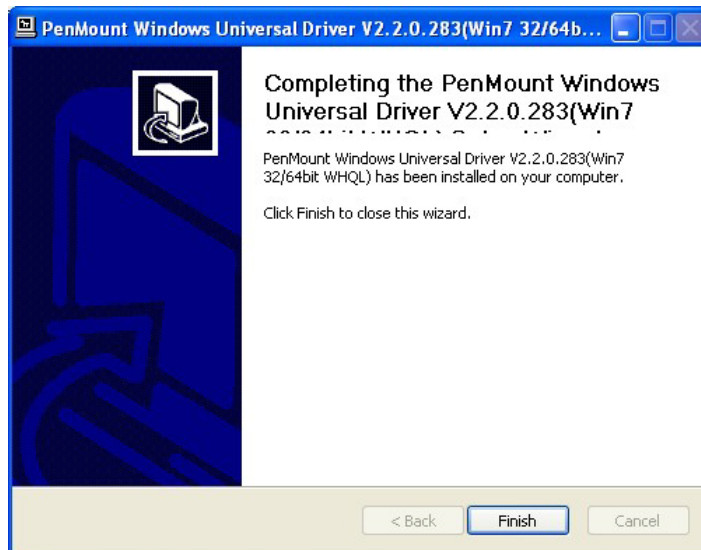

Figure 6-6: Finish Installation
Step 10: When the installation is complete, the complete screen appears. See **Figure 6-6**.